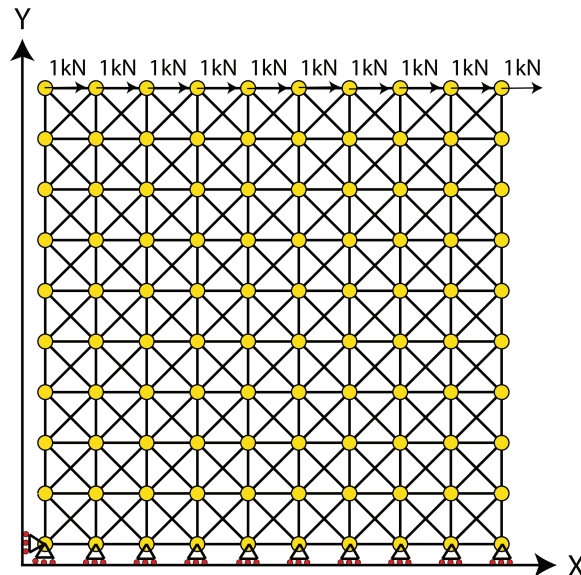

Figure 4: 2D truss model system to compute shear modulus
- (c) To measure shear modulus first remove all the constraints on side nodes and fix *all* the bottom nodes in Y-direction, also fix just *one* corner(bottom left) node in both X and Y directions (Fig.4). Now, apply a shear load (+X direction) of 1 kN on all the top nodes and compute G_{struc} as follows,